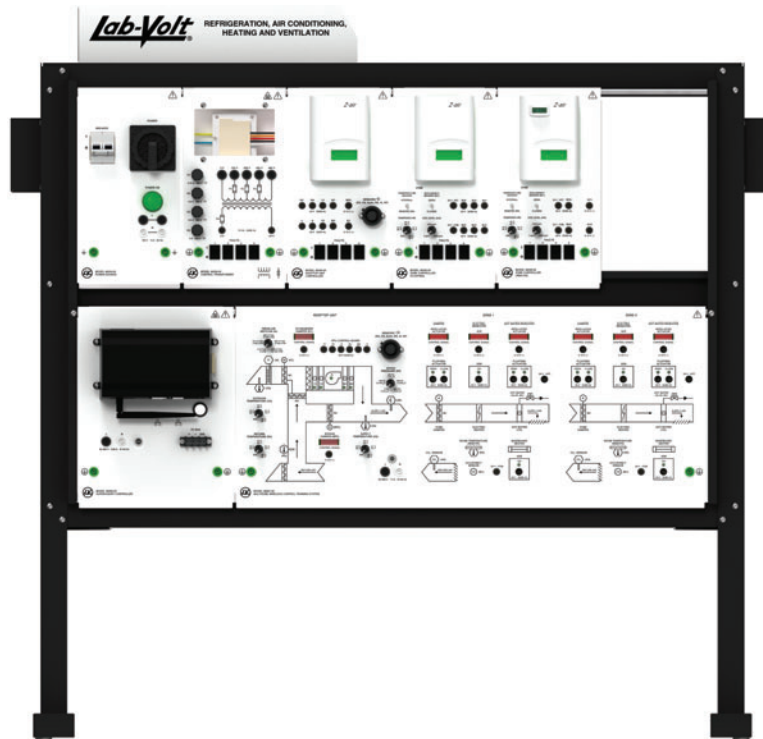

Figure 43. All modules installed on the workstation.
1. Install all the system modules in the workstation as shown in Figure 43.